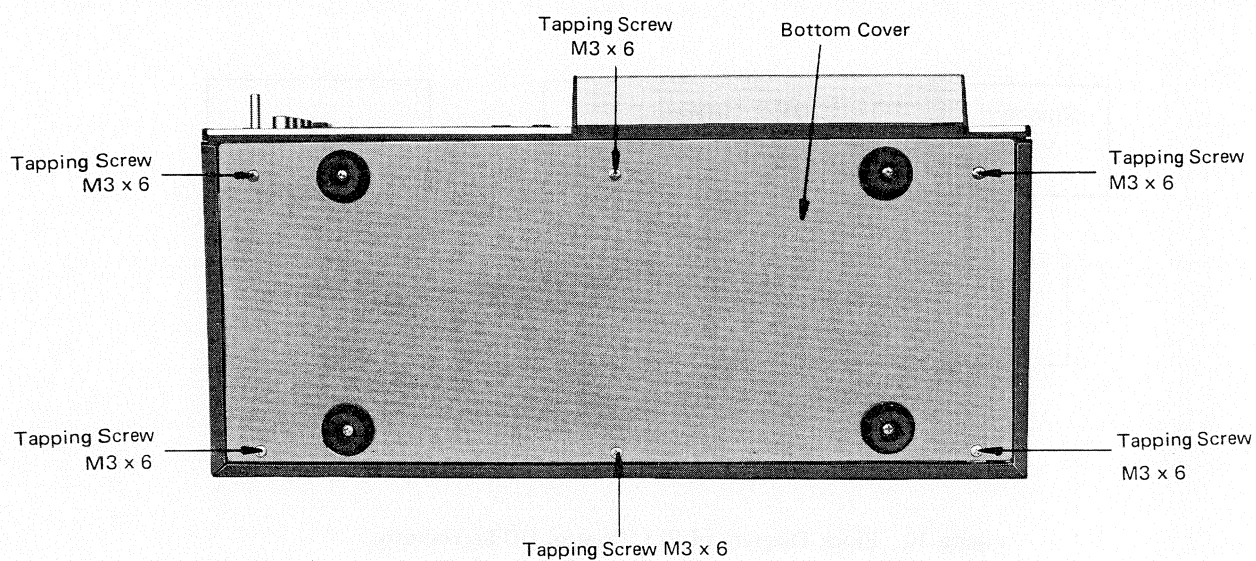

Figure 7. Location of Screws
3. Remove six screws from the bottom cover. See figure 7.